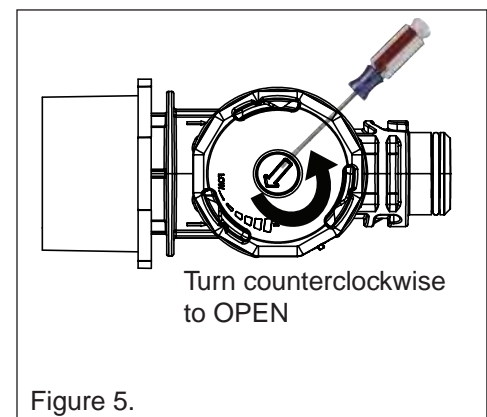

Figure 5.
4. Adjust the valve on the wall fitting using a flathead screw driver by turning the valve clockwise (to reduce flow) or counter-clockwise (to increase flow) so that the white plunger aligns with the arrows on the flow gauge markings. **See figure 5.**